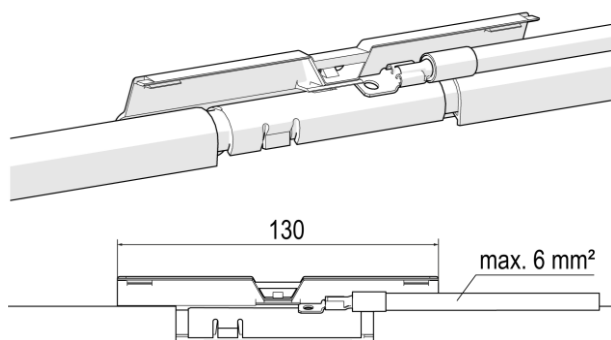
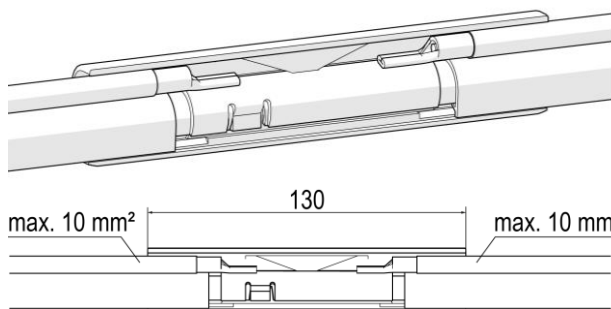

Fig. 78: Electrical feed with connector 35 A
Fig. 80: Electrical feed with connector 100 A
- Connect or crimp the electrical line to the soldered crimp or flat plug connection of the bayonet connector (see Fig. 78 to Fig. 80).